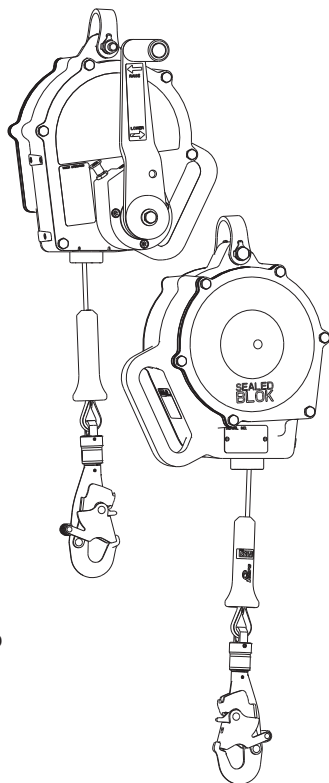

Figure 1 - Self Retracting Lifeline Parts Identification
9.1 ANSI MODELS: These labels must be securely attached to the self retracting lifeline and must be fully legible. See Figures 1 and 2 for label locations.